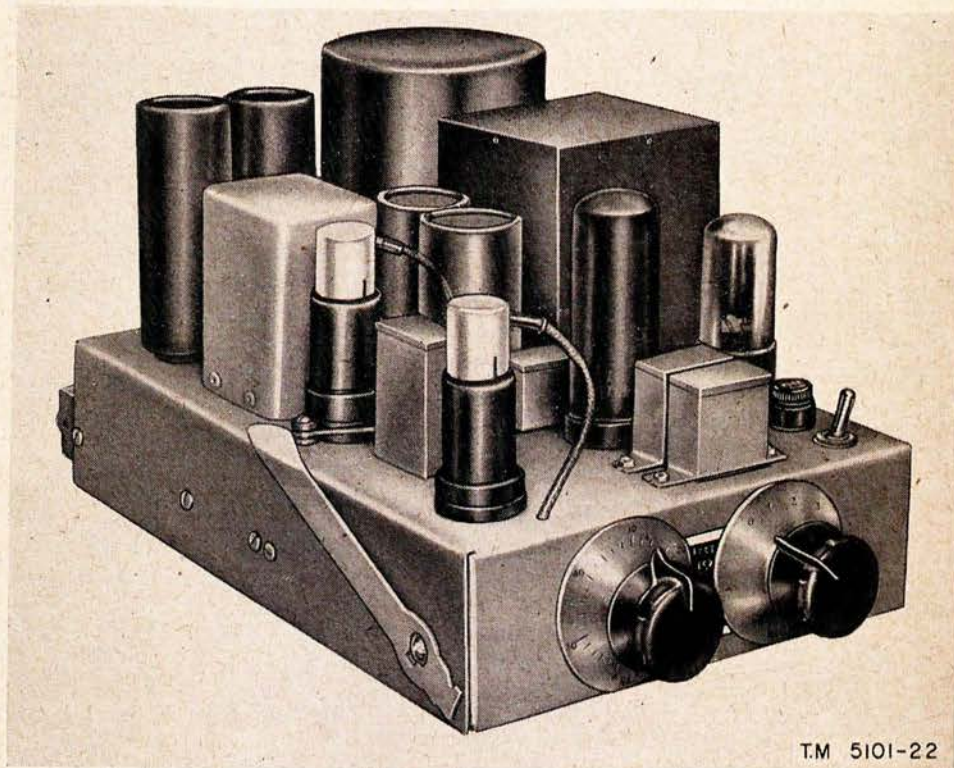
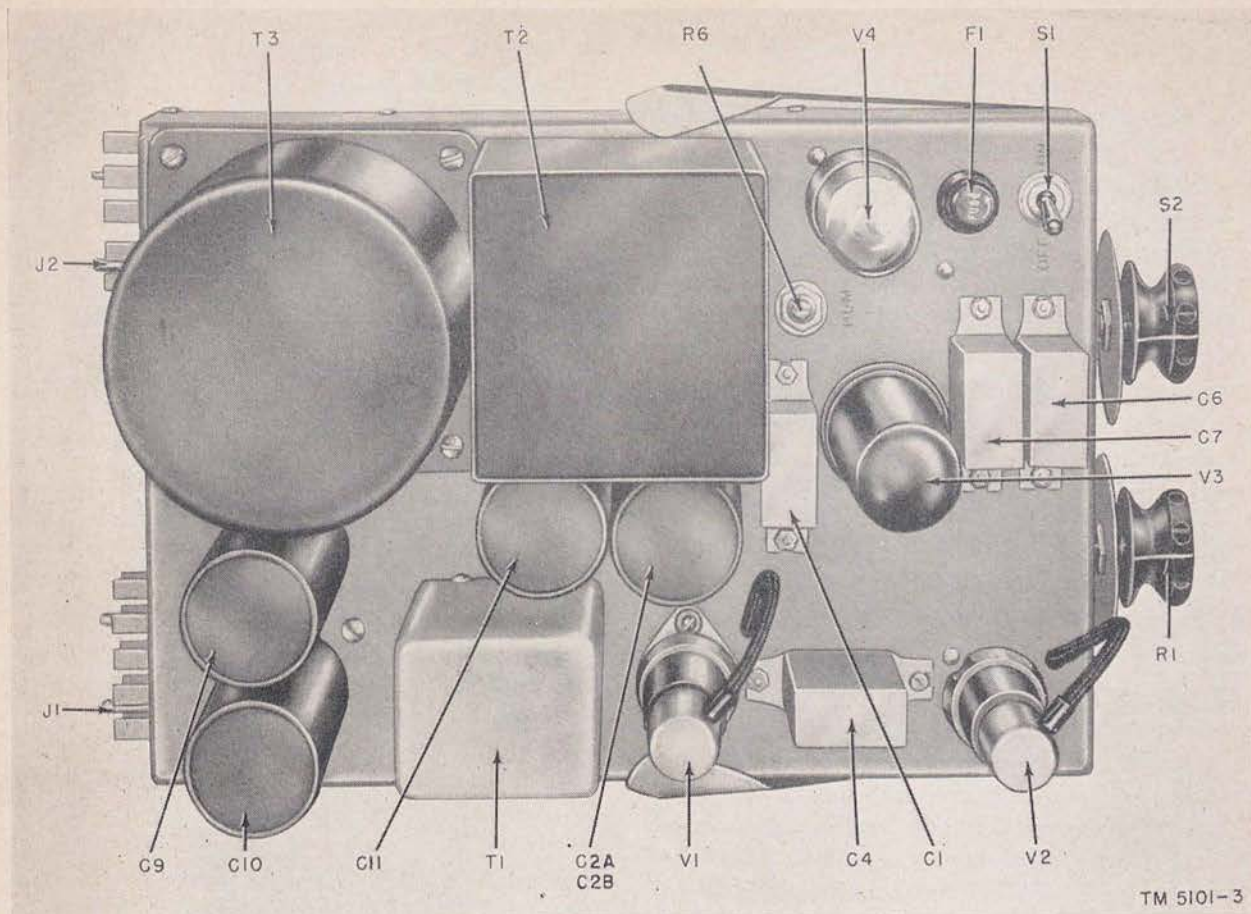

Figure 1. AF Amplifier AM-465/FR.
Figure 5. AF Amplifier AM-465/FR, chassis, top view.
This manual contains complete instructions for the installation, operation, maintenance, and repair of AF Amplifier AM-465/FR (fig. 1). These instructions apply only to the audio-frequency (af) amplifier as a single unit.
plifier stages and a power supply. A completely assembled amplifier is shown in figure 1. Provisions are made for controlling the gain of the amplifier, for adjusting the hum to a minimum, and for checking the operation of each tube. The VA (gain) control is mounted on the left side of the amplifier front panel and the METER switch on the right (fig. 14). The HUM adjustment potentiometer is mounted on top of the chassis in front of the output transformer (fig. 14). Connections to the amplifier are made directly to plugs located on the rear of the chassis. The plug marked J1 is the input and the plug marked J2 is the output (fig. 5).
a. Tubes. With the power OFF-ON switch in the OFF position, check to be sure that the tubes are in their proper sockets as shown in figure 5. The tube type for each socket is stenciled on the chassis near the socket. Mount the two grid caps and the grid cap shields on tubes V1 and V2 (type 6J7). Each shield must make a good electrical connection to the shell of the tube to insure noise-free operation.
b. Electrolytic Capacitors. The four electrolytic capacitors, C2, C9, C10, and C11, should be in the red sockets provided on the amplifier chassis (fig. 5). Carefully check each capacitor to be sure that the rating marked on the capacitor cover corresponds to the value stenciled on the chassis adjacent to the sockets.